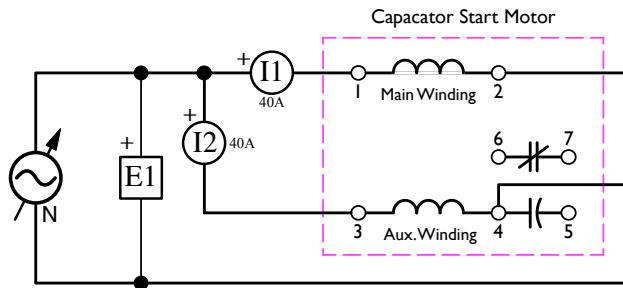

Figure 4.17: Capacitor Start Motor – Main and Auxiliary Winding
- 38. Turn off the power supply and set the voltage control knob to zero. Connect the auxiliary winding of the Capacitor-Start Motor as shown in Figure 4.17.